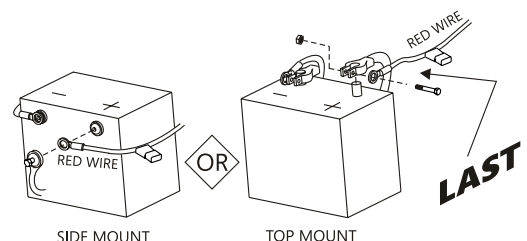

Figure 13-4
7. Last, attach red wire to the positive terminal on the battery. *[Figure 13-4]*